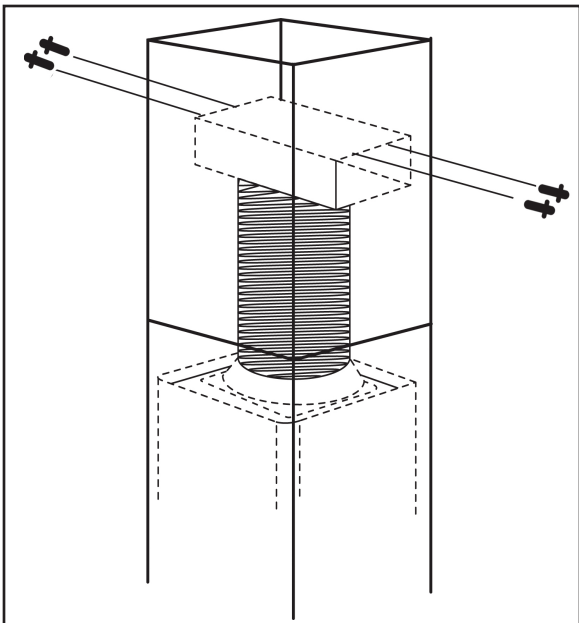

Figure 3
- a) Adjust the length of the extension tube, and put the chimney on the body, then fix the recirculation box on inside chimney with 4 screws (A). See Figure 3.